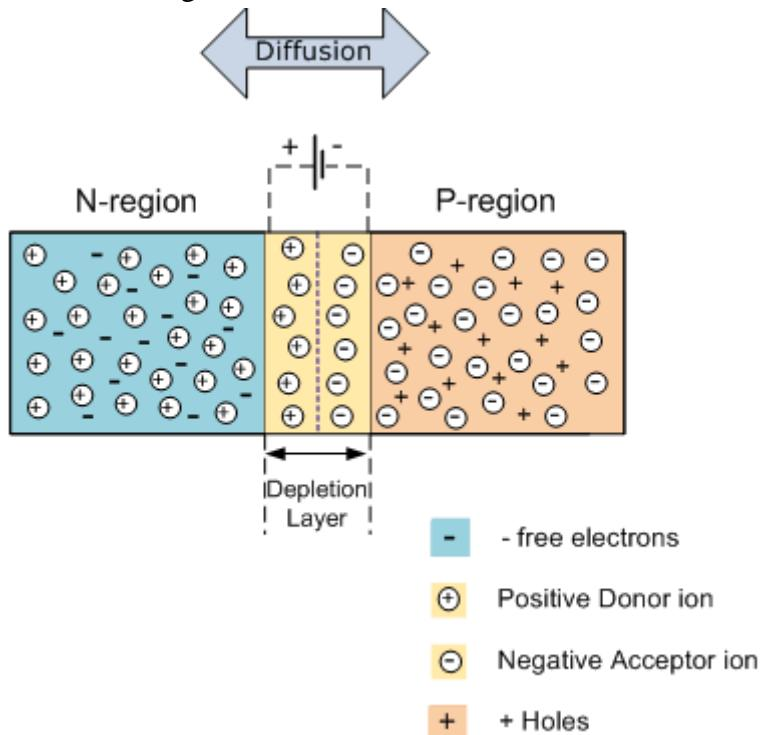

Figure. 1.1.3. P-N diode with zero biase.
- a) **Zero Bias:** In the absence of any bias voltage, the net flow of charge carriers in any one direction for a semiconductor diode is zero. This occurs because minority carriers (holes) in the N-type material will encounter barrier in the depletion region to cross the junction and move to the P-type region. Same is the case for electrons in P-type material. This results in depletion region with high impedance, and hence no current flows through the diode. The built-in potential varies from 0.3 to 0.7 eV depending upon the type of semiconductor material. A diode operated without any biasing is shown in Figure 1.1.3.